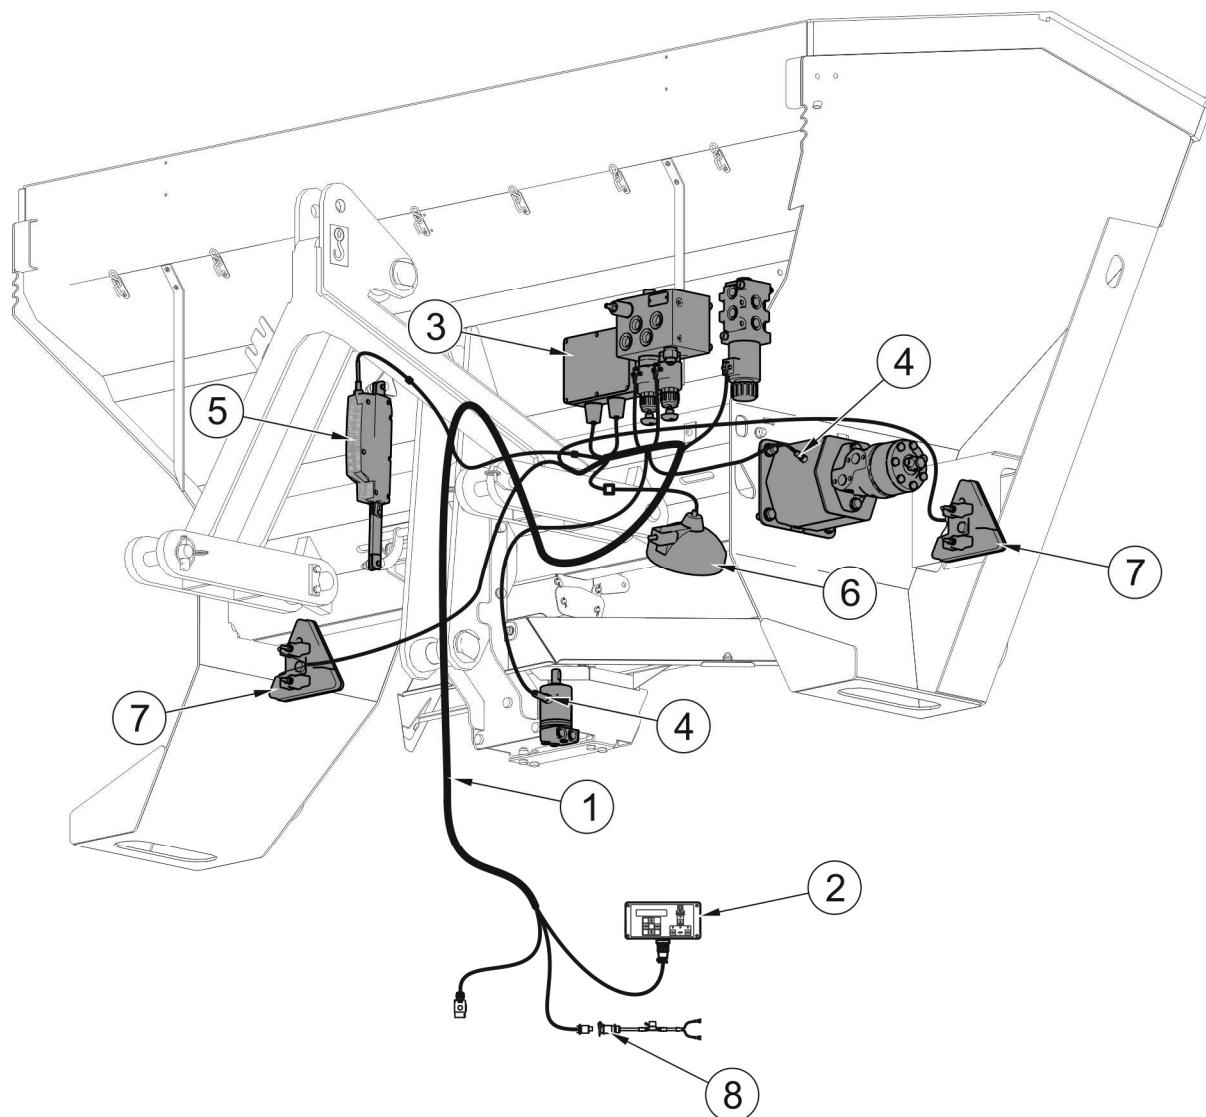

FIGURE 3.3 Design of the electrical system
(1)- power supply cluster; (2)- control panel; (3)- run-time module; (4)- induction sensors; (5)- electric actuator; (6)- working lamp; (7)- combination lamps; (8)- power supply cable with a 3-pin socket
The electrical installation (FIGURE 3.3) of the self-loading spreader HZS10 is made of the control panel (2), through which spreader functions can be controlled. The control panel (2) is connected via the power supply cluster (1) with the electric instrumentation of the spreader